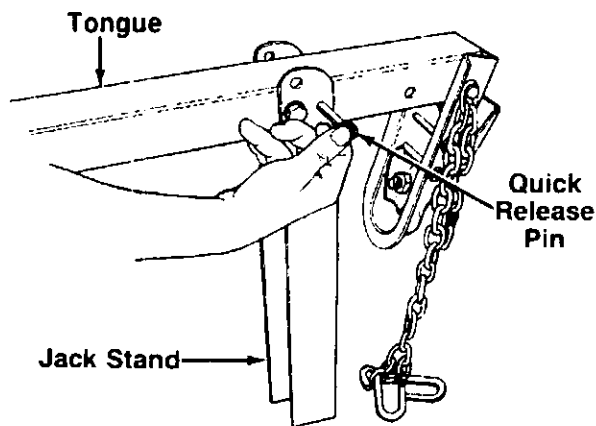

FIGURE 2.
1. The tongue is shipped with the jack stand already attached to the tongue. The jack stand is in the transport position. Remove the quick release pin. Pivot the jack stand to the operating position (90°), and secure with the quick release pin. See figure 2.